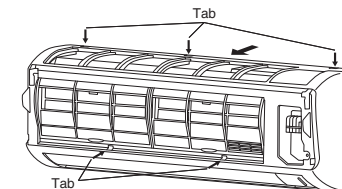

Fig. 3-42
- Press the 3 tabs at the top of the grille and the 3 tabs on the front face to separate the grille from the frame. (Fig. 3-42)